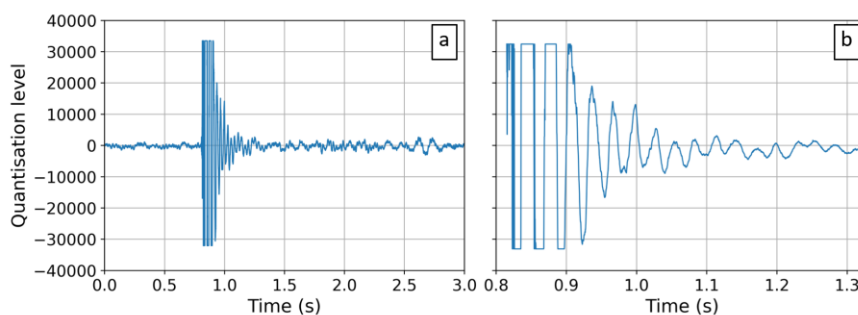

Figure 2 - An example of a signal captured from a ruler 'twang' a) in full, b) cropped signal for processing
1. Crop the data so that only the period when the sound from the ruler is significantly large enough above the noise is visible, as shown in Figure 2(a/b).
Using the same circuit and Python scripts as before, measure the natural frequency of the ruler. Note, to avoid noise effecting your crossing point location too much you may need to **crop** the signal around the sound of the ruler and adjust the microphone position to provide a favourable signal to noise ratio. An example signal and the final cropped signal is given in Figure 2 (a) and (b) respectively.